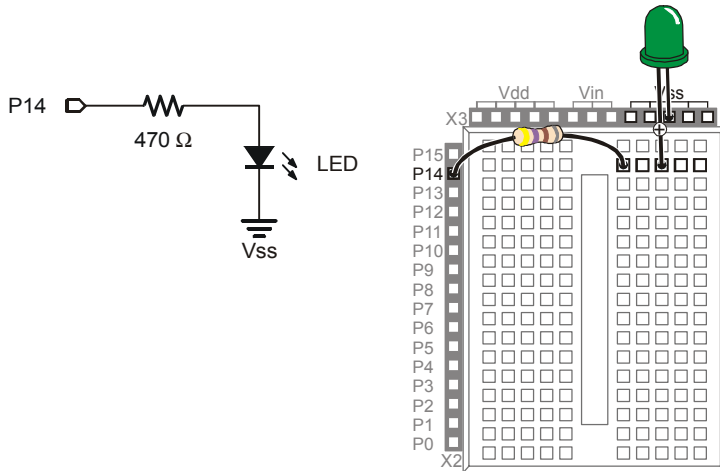

Figure 2-11
The LED circuit shown in Figure 2-11 is wired almost the same as the circuit in the previous exercise. The difference is that the resistor's lead that was manually switched between Vdd and Vss is now plugged into a BASIC Stamp I/O pin.
- √ Modify the circuit you were working with in Activity #1 so that it matches Figure 2-11.
Use the example circuit shown in Figure 2-11 on page 48.